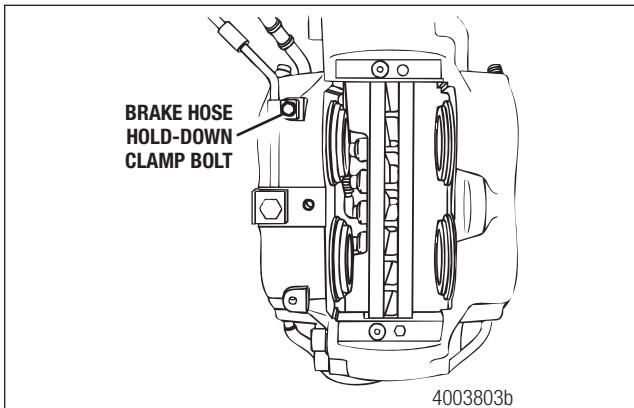

Figure 6.9
5. Secure the brake hose hold-down clamp with the bolt. Figure 6.9.